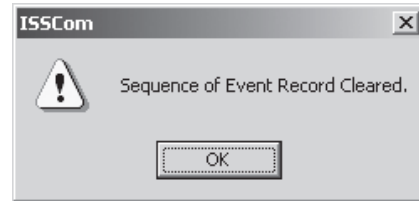

Figure 3-40 Sequence of Events Record Cleared Confirmation Screen
- Select **YES**, ISScom will respond with the Sequence of Events Records Cleared confirmation Screen (Figure 3-40).